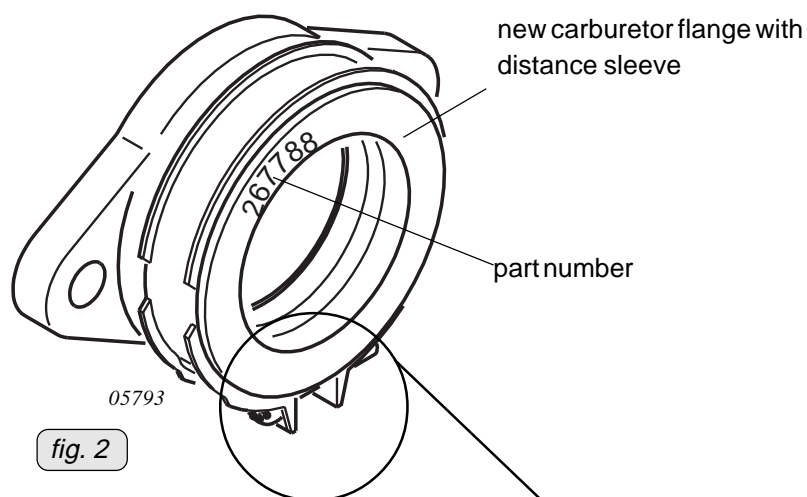
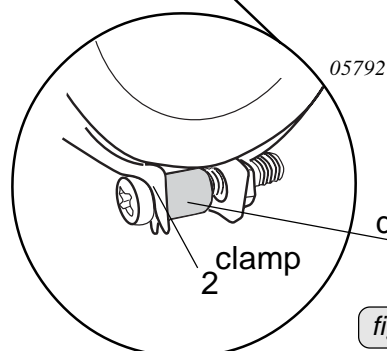

fig. 2
fig. 4
(see fig. 2 to fig. 4)
Replacement/Installation of the carburetor flanges in accordance with the relevant Maintenance Manual. Tighten clamp (2) of the carburetor flange part no. 267788 with tightening torque 2.5 Nm (22 in.lb ) (see fig. 4) .